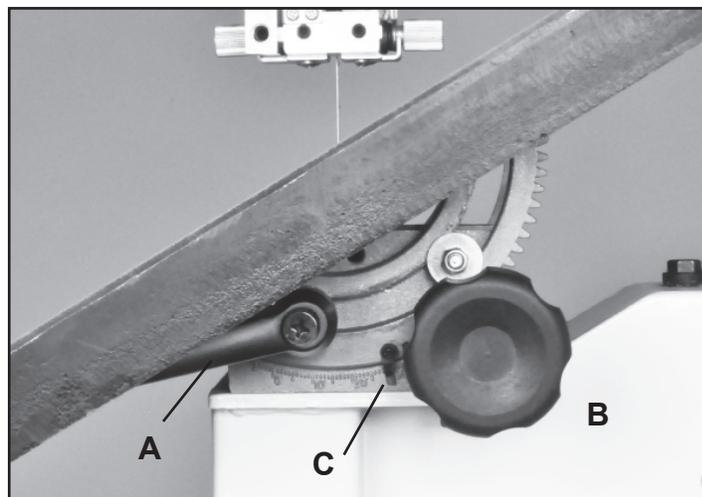

FIGURE 11
1. At the rear of the saw, loosen the Locking Handle (#27B) on the table trunnion by turning it counter-clockwise. Fig. 11, A.
2. Turn the Table Tilting Knob (#30B) to adjust the table to the desired angle. Fig. 11, B. Use the angle indicator scale that is cast into the trunnion bracket Support (#17B, C) to find the desired angle.